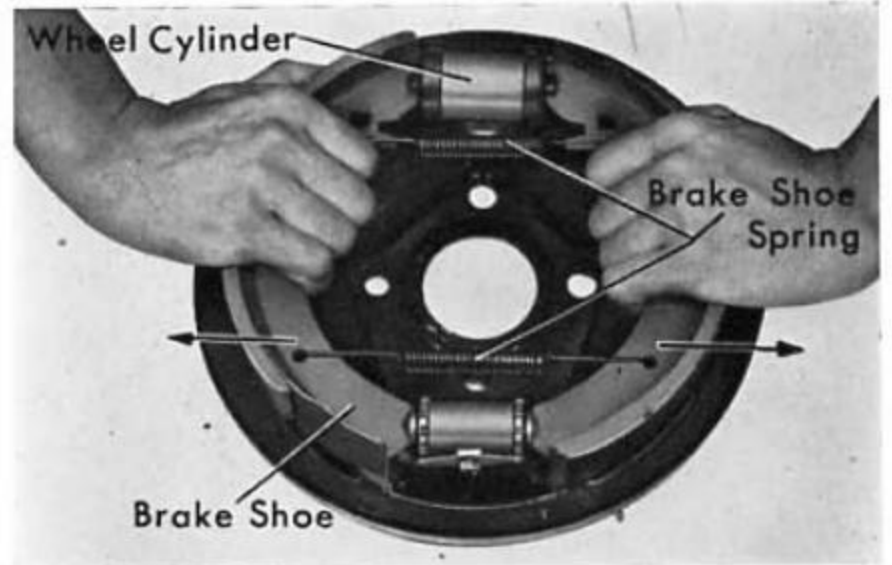

Fig. 13A-5
- Spread the brake shoes apart and remove the brake shoes from the anchor plate together with the return springs (Fig. 13A-5).
- Remove the wheel cylinder setting nuts, washer and disassemble the wheel cylinder from the anchor plate, (Fig. 13A-6).